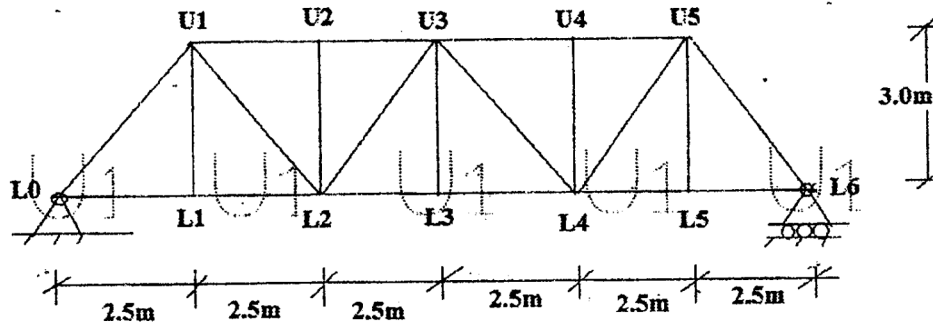

Figure: 9
11. Draw ILD, for top and bottom chords of the warren type truss shown in Figure 9. [10]